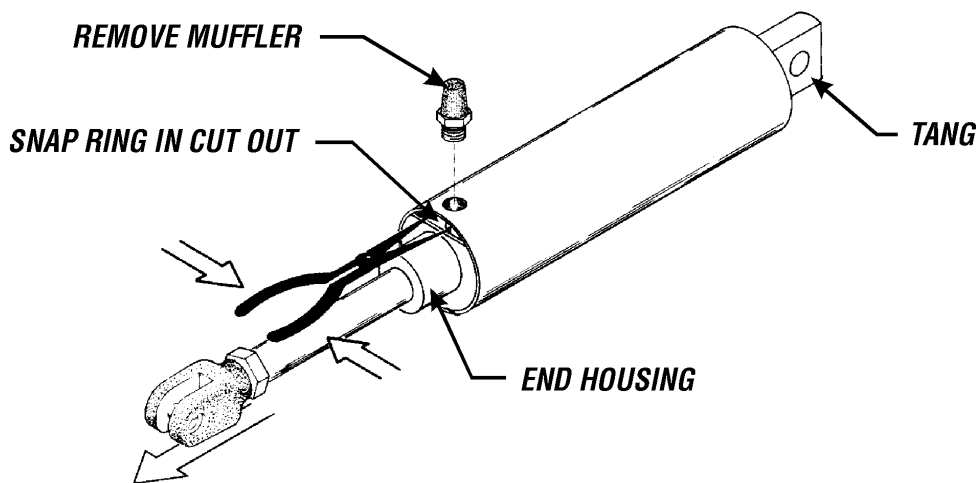

Figure 7
3. Pull the rod out 2/3 to 3/4 of the way. Squeeze the snap ring with snap ring pliers and pull on the rod to "tap" the end housing out of the cylinder (see Figure 7).